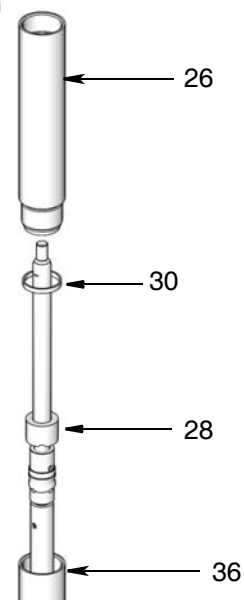

Fig. 5
7. Tighten a strap wrench on the spacer cylinder (36) and use it to prevent this part from moving. Secure a strap wrench around the cylinder (26) and use it to turn the cylinder to loosen and remove it from the pump assembly. (Fig. 5). Remove the intake seal (28).